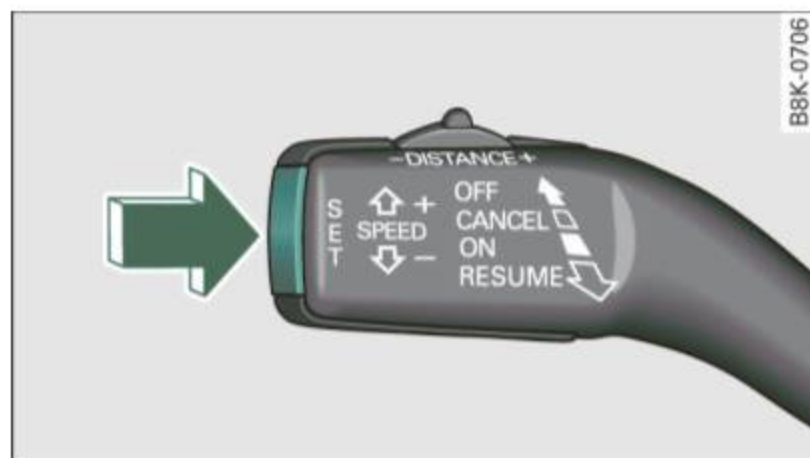

Fig. 124 Control lever: Storing speed
- Press the **SET** button ⇒ fig. 124 to store the desired speed.
You can increase your speed at any time by stepping on the accelerator pedal. After you release the accelerator pedal, the system adjusts back down to the speed you previously set. A new desired speed can be stored at any time by pressing the **SET** button \Rightarrow page 124, fig. 124. ■